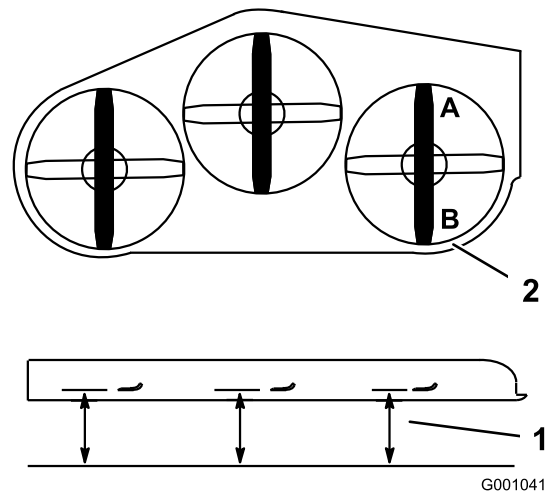

Figure 85
2. Position 1 blade front-to-rear. Measure at **A** and **B** locations from a level surface to the cutting edge of the blade tips (Figure 85).